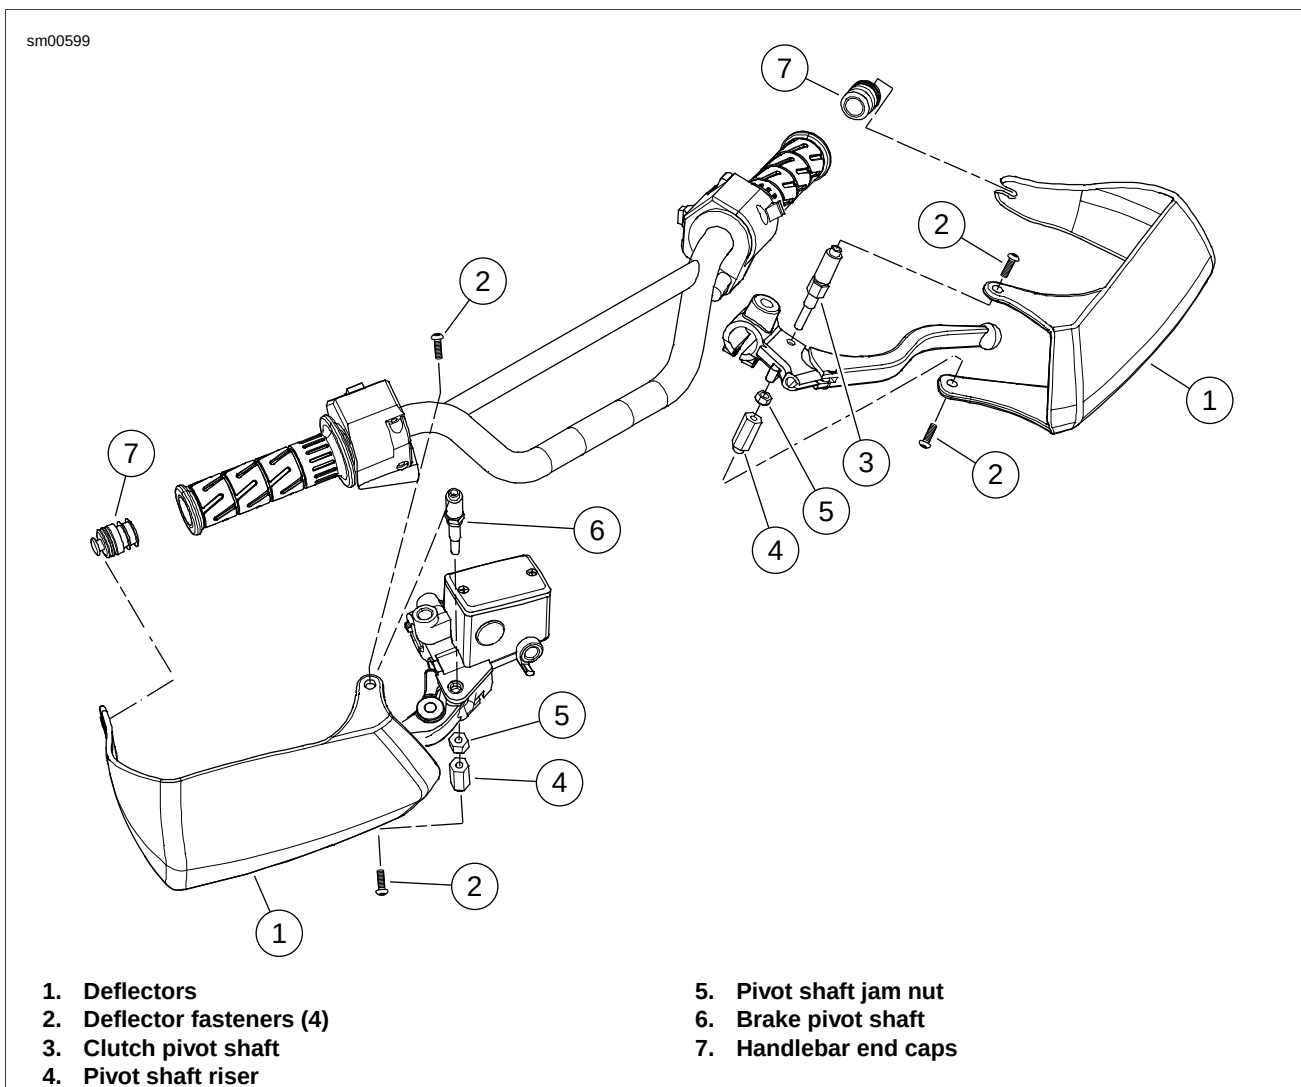

Figure 2-146. Deflectors: XB9SX, XB12STT, XB12X and XB12XT Models
1. Figure 2-146. Remove fasteners (2) from clutch and brake pivot shafts (3, 6) and pivot shaft risers (4).
2. Unsnap deflectors (1) from handlebar end caps (7).
3. Lift deflectors off of the pivot shafts (3, 6) and pivot shaft risers (4).
4. Loosen pivot shaft riser (4) and jam nut (5) and remove from both pivot shafts (3, 6).